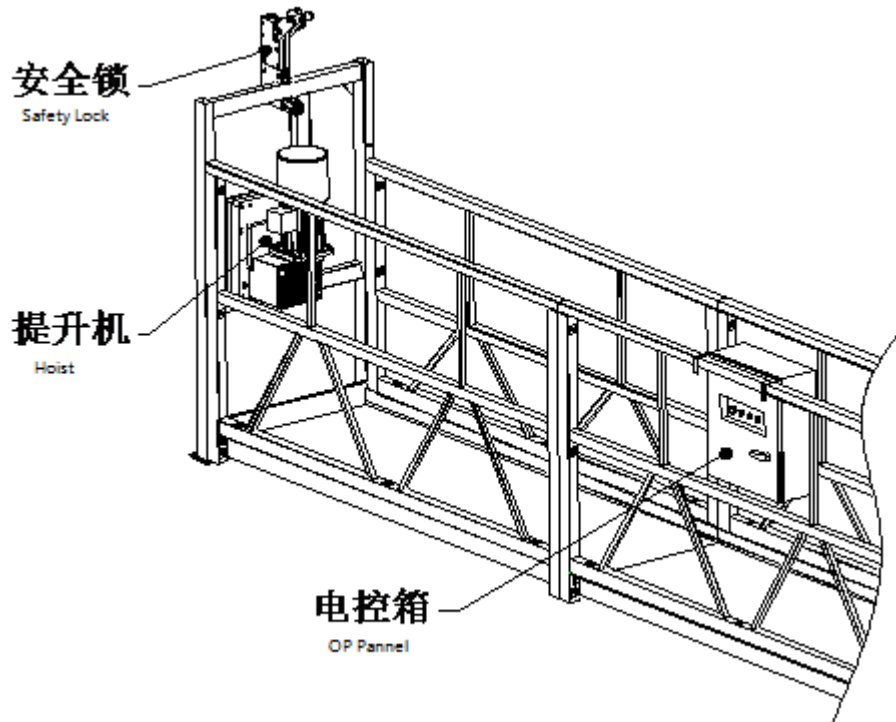

Figure8.Hoist, safety lock, electric control box installation diagram
4.4.1 the hoist is mounted on the mounting frame of the suspension platform, with the handle and the lock pin fixed, and the spring of the detent must be leveled and locked. (see figure8: Gondola hoisting machine, safety lock, electric control box installation diagram)